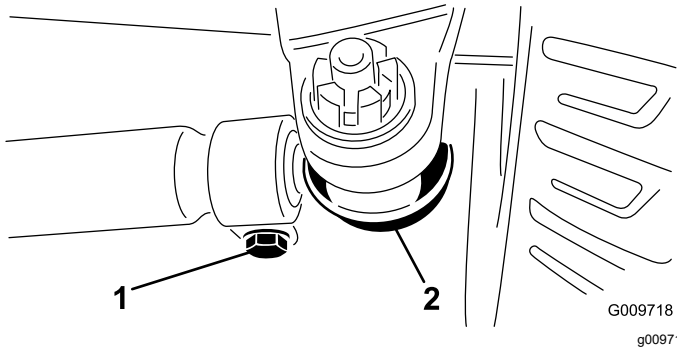

Figure 77
3. To adjust, remove the cotter pin and nut from either tie rod ball joint (Figure 77). Remove the tie-rod ball joint from the axle-case support.
4. Loosen the clamps at both ends of the tie rods (Figure 77).